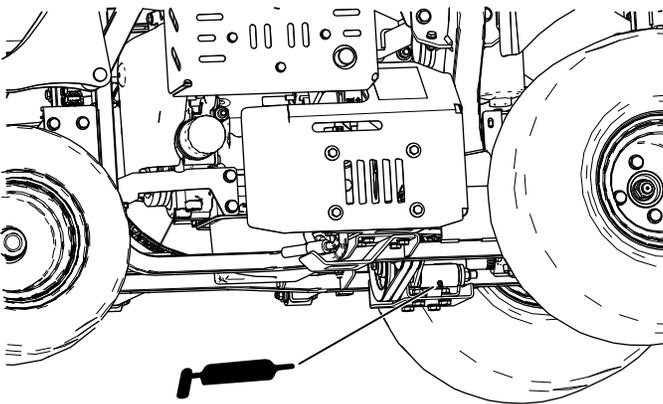

Figure 42
- Transmission idler (Figure 42).